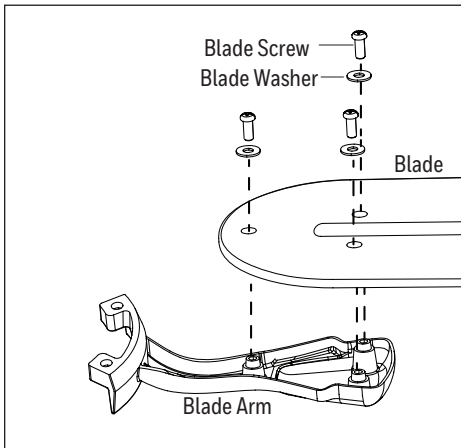

Figure 5.4
- Partially insert the blade screws along with blade washer through blade and into the blade arm. Tighten each blade screw starting with the one in the middle (Figure 5.4). Repeat this step for the remaining blades and blade arms.